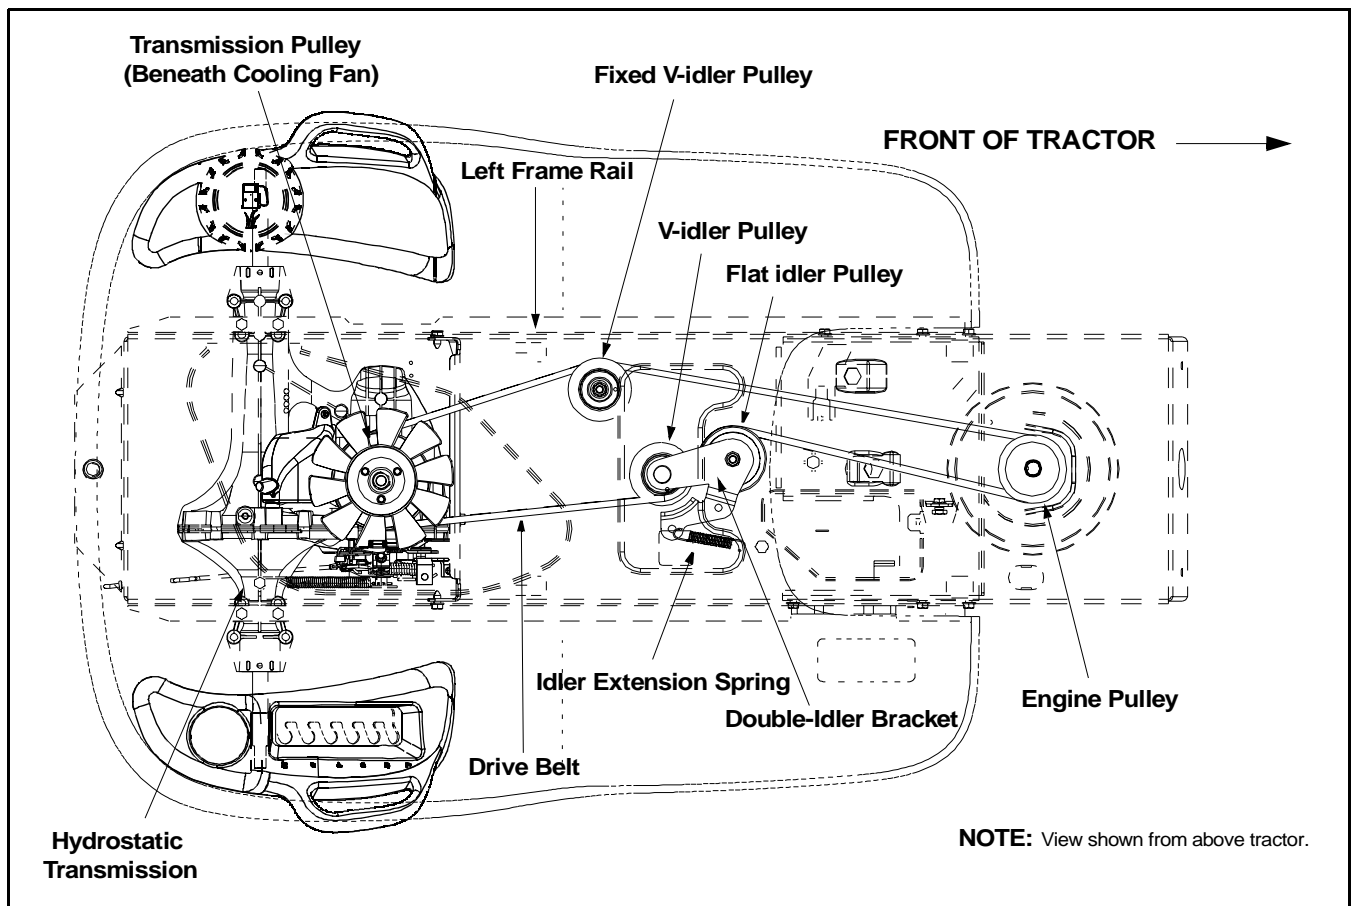

Figure 30
- Locate the fixed v-idler pulley found on the left underside of the frame. See Figure 30.
- Grasp the belt on both sides of the pulley and gently move it toward the left frame rail allowing it to unseat itself from the fixed v-idler. See Figure 30.
- Remove the drive belt by feeding it from front to rear, toward the hydrostatic transmission. See Figure 30.
- Reroute the new belt around the pulleys and belt keepers, if present, EXACTLY as the old one was routed. Refer to Figure 30.